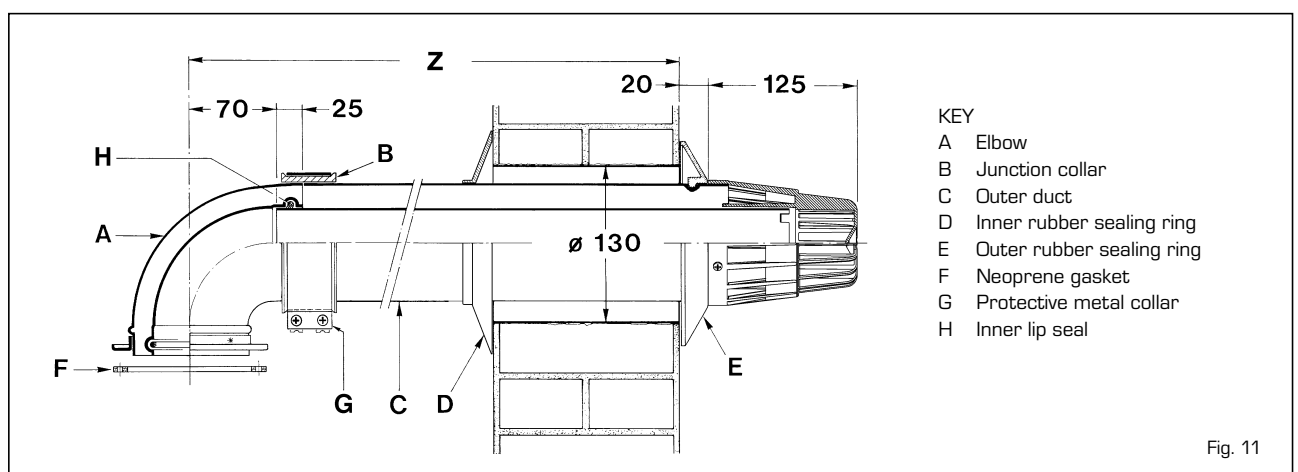

Fig. 11
- Fit the rubber sealing ring into the swaged groove in the air duct as shown in fig. 11. Ensure that it is the correct way around and spray the outside surface with talcum powder or soap solution to reduce friction.
- Fit the rubber sealing ring into the swaged groove in the air duct as shown in fig. 11. Ensure that it is the correct way around.
- With reference to fig. 11, slide on the rubber ring (D), check that the rubber sealing ring (E) is pulled up to the wall and that the duct assembly is horizontal.
- Push the junction collar (B) over the air duct until the air duct touches the inner part of the collar where the diameter becomes smaller.
- Fit the protective metal collar (G) over the junction collar.
- Place the gasket (F) under the flange of the elbow and fit the elbow onto the air smoke manifold, taking care to ensure that the silicon seal on the elbow correctly engages and forms a seal at its joint with the manifold.